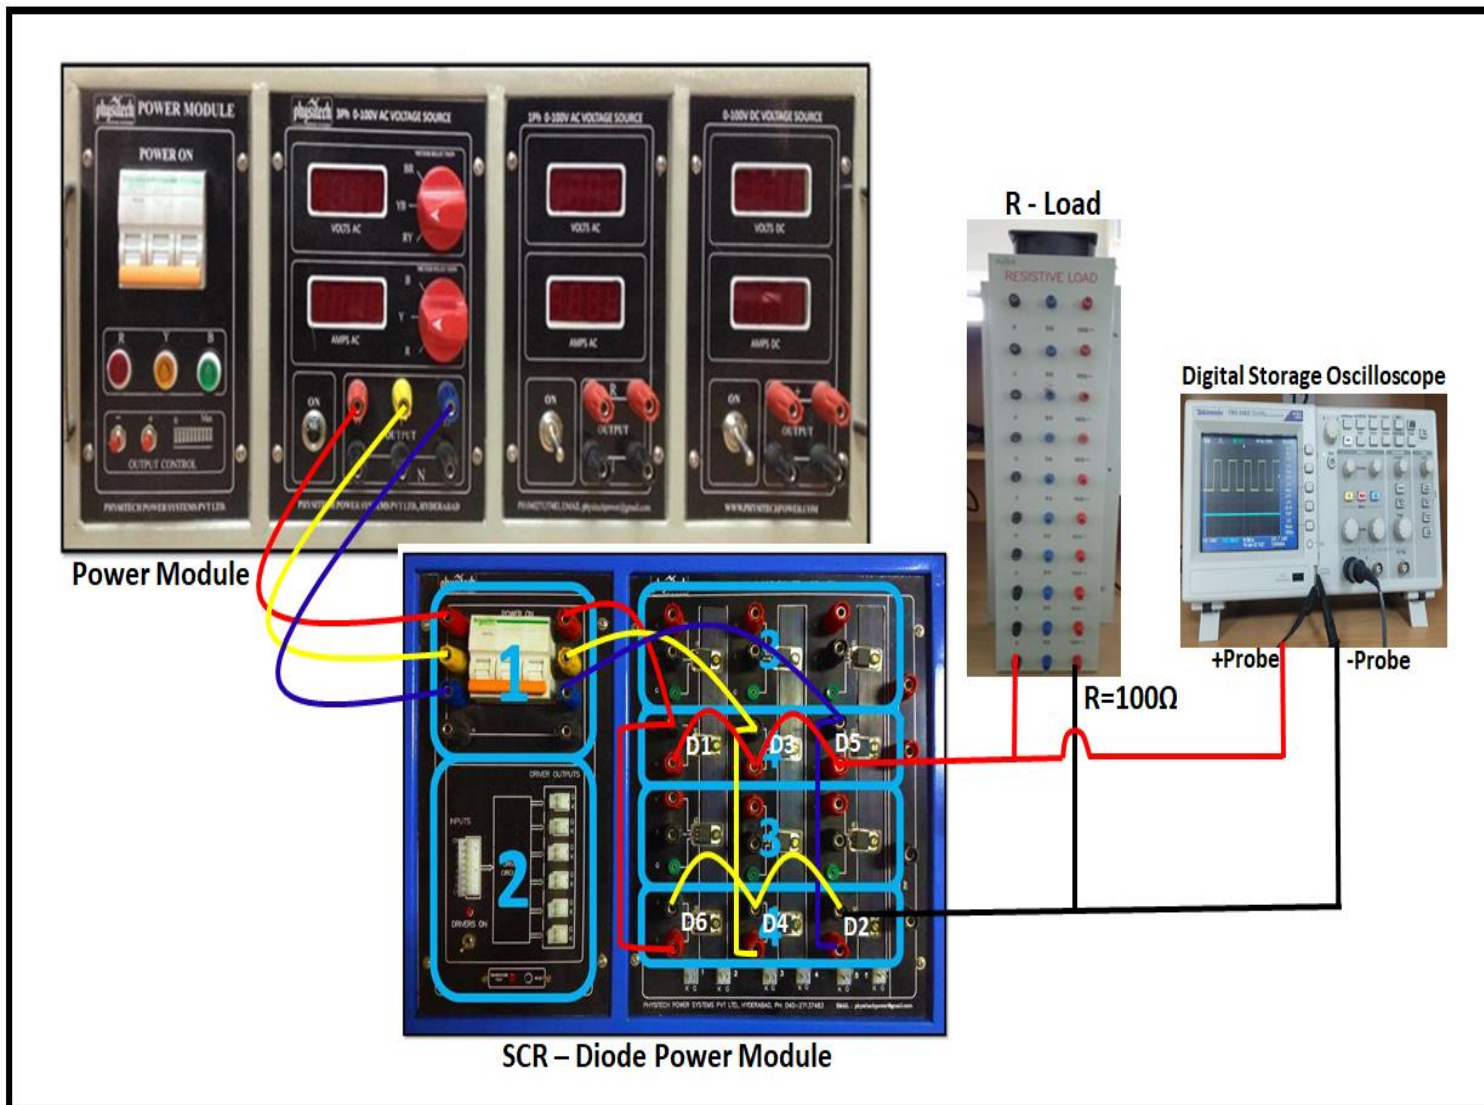

Fig. 4
1. Connect the circuit as shown in Fig.4 (R load (**R=100 ohms**)).